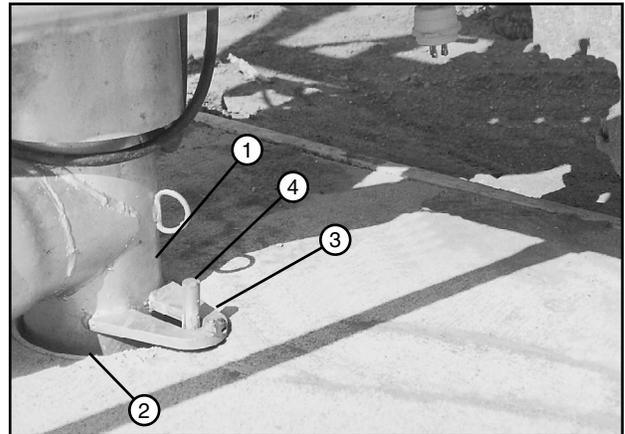

Figure 39-2 1. Riser Pipe 3. Slotted Ear
11. Align and lower the riser pipe into the anchor pipe. Be sure the slotted ears on the riser pipe align with the studs in the pivot pad. In addition, the slotted ear on the Stop-In-Slot and End Gun Shutoff bracket must be positioned on the "T" bracket. See figure 39-2.